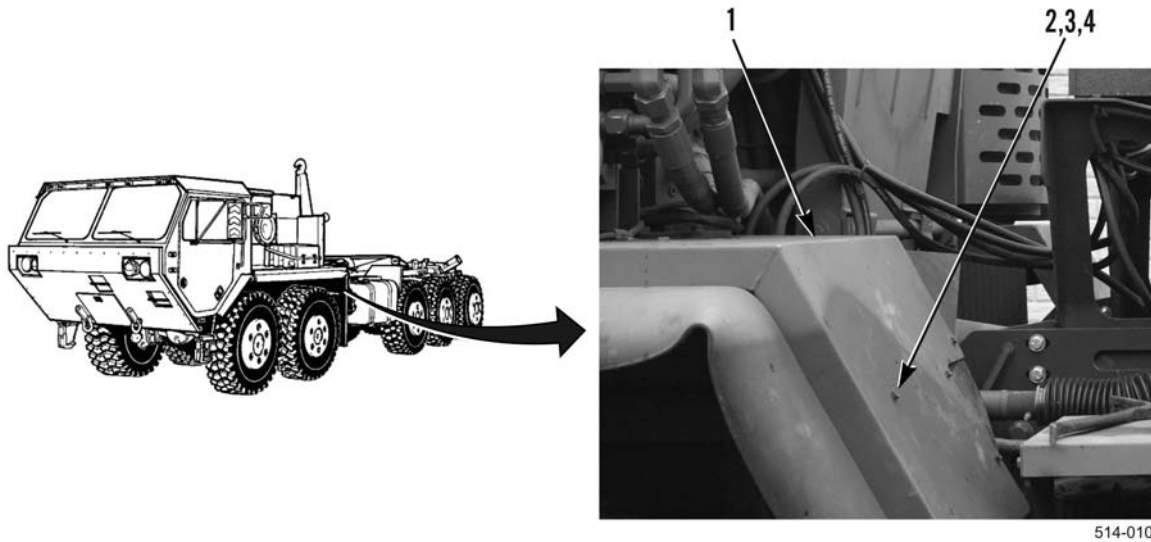

Figure 34. PLS Left-Side Fender.
37. At left-side fender (Figure 34, Item 1), remove bolt (Figure 34, Item 2), washer (Figure 34, Item 3), and nut (Figure 34, Item 4) from fender.